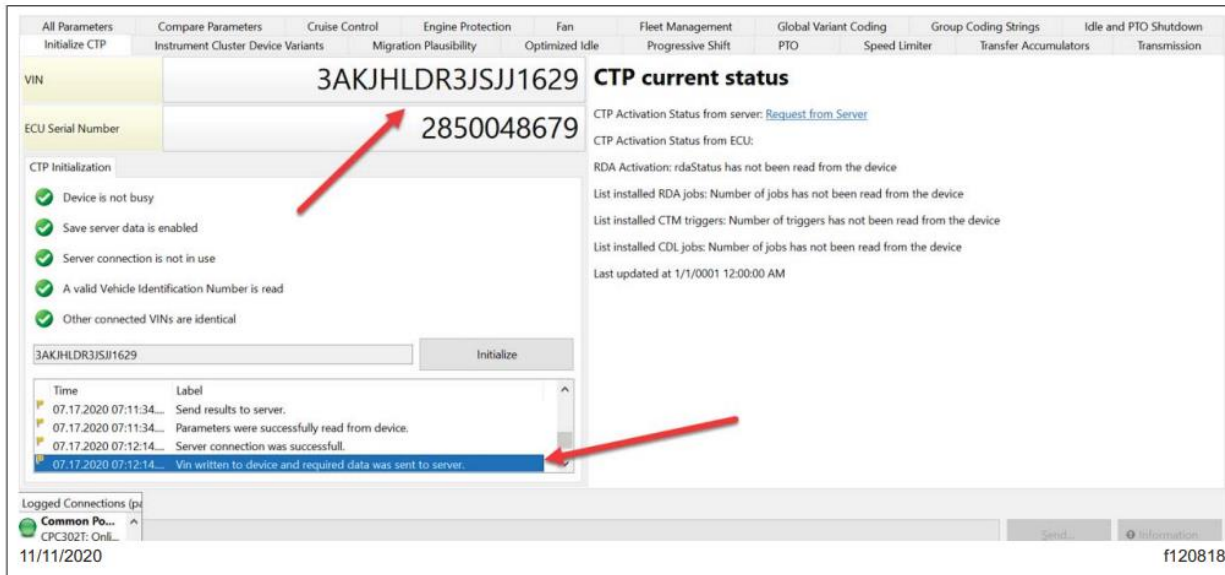

Fig. 17, 'VIN Written to Device and the Required Data was Sent to the Server' Message
29. Wait until the initialization procedure finishes, and the last line in the Initialize progress text field reads: 'VIN written to device and the required data was sent to the server.' See Fig. 17.
30. Within no more than 10 minutes from the end of the initialization procedure, does the CTP show the 'VIN written to device and the required data was sent to the server' message? See **Fig. 17**.
YES → Take a screenshot of the DiagnosticLink window. Make sure the VIN and the last line in the dialog box 'VIN written to device and the required data was sent to the server' are visible in the capture, as shown in **Fig. 17**. Go to **step 31**.